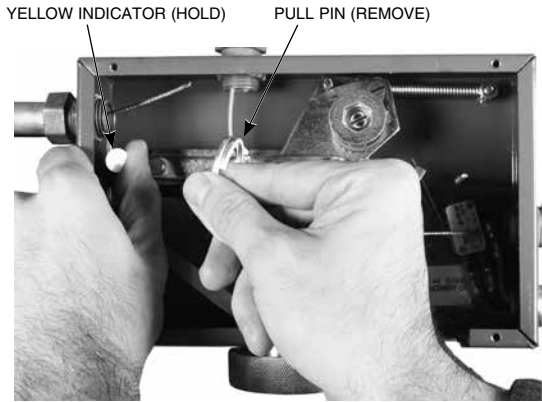

FIGURE 13
8. Tightly hold the yellow indicator to keep the slide plate from snapping to the right; then remove pull pin. See Figure 13. After pull pin is removed, slowly allow slide plate to move to the right. Note: set pin aside for future use.